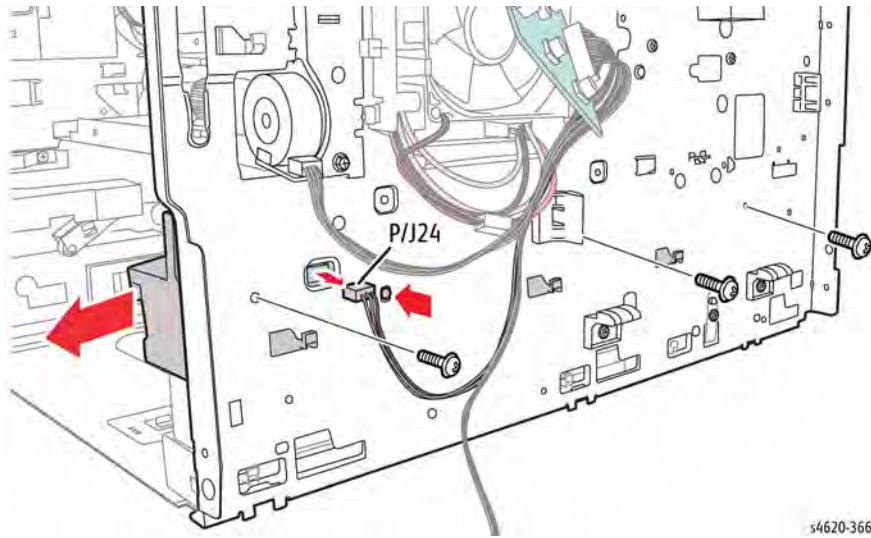

Figure 3 Remove the left upper tray guide
19. Remove 3 (plastic) screws, disconnect the Duplex Unit Detect Sensor P/J24, depress 1 tab and slide the guide to the rear to release the hooks and remove the left upper tray guide from the chassis, Figure 3.